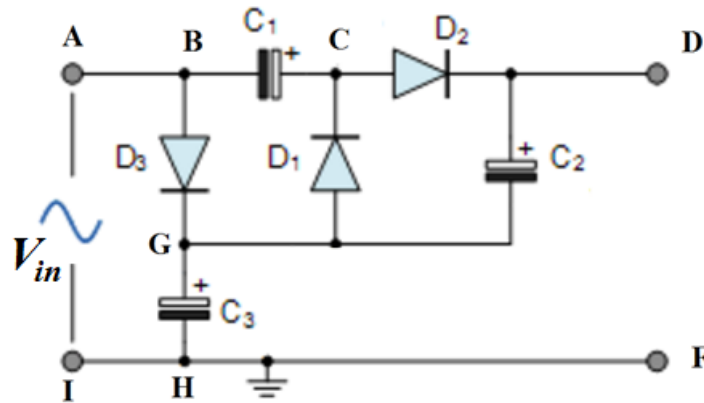

Fig. 4
- 1.4. **Fig. 4** shows a voltage multiplier circuit with input voltage source $V_{in} = 100\sqrt{2}\sin(\omega t)$.